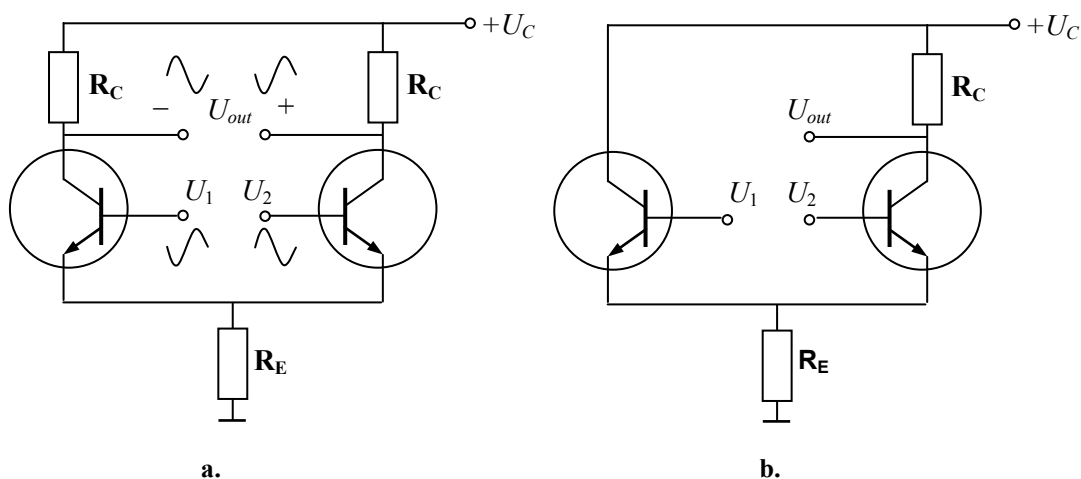

Fig. 2.15
**Differential amplifiers.** A *differential amplifier*, or *diff amp* is the two-input device that amplifies the difference of both inputs. It serves as the typical input stage of many amplifiers. Fig. 2.15,a presents a general form of the diff amp that is termed as a *long-tailed pair* because  $R_E$  is called a *tail resistor*. The diff amp has two inputs –  $U_1$  and  $U_2$ . Because there are no coupling or bypass capacitors, the input signals can have frequencies all the way down to zero, equivalent to dc, and the amplifier has a broad midband and high stability. The output signal is the voltage on the load connected between the collectors. Ideally, the circuit is symmetrical with identical transistors and collector resistors. The amplifier has the more linear transfer characteristic than the single bipolar transistor has.
That is why any encumbrances and spikes of the input signals and supply voltage pulses compensate one another. On the other hand, when  $U_1$  is greater than  $U_2$ , an output voltage with the polarity shown in Fig. 2.15,a appears. When  $U_1$  is less than  $U_2$ , the output voltage has the opposite polarity. In any case, the output voltage is proportional to the difference of the input signals. The difference signal is amplified with a great gain.
Fig. 2.15,b illustrates the modified topology of the diff amp. Here, a growing of  $U_1$  produces an increase in the output voltage. The  $U_1$  input voltage is called a *non-inverting voltage* because the output voltage is in phase with  $U_1$ . On the other hand, the  $U_2$  input voltage is called an *inverting input* because the output voltage is 180 degrees out of phase with  $U_1$ .